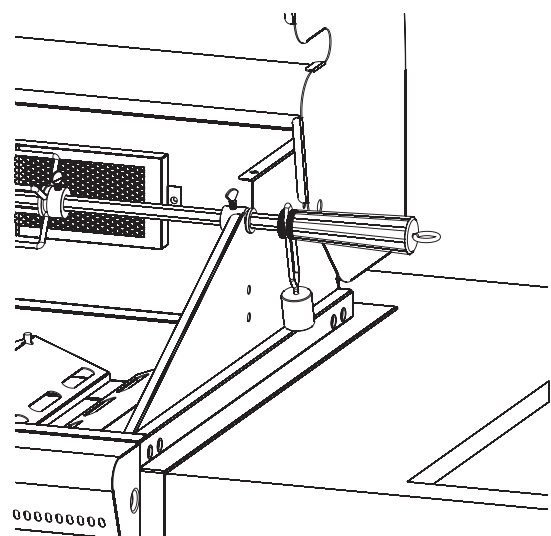

Figure 12
15. Screw jamb nut to the threaded side of spit. Slide counterbalance onto threaded end of spit. The counterbalance will remain to the outside of the grill. Screw second jamb nut into the spit to hold counterbalance in place. See Figure 12.
16. Attach handle onto spit. See Figure 12.